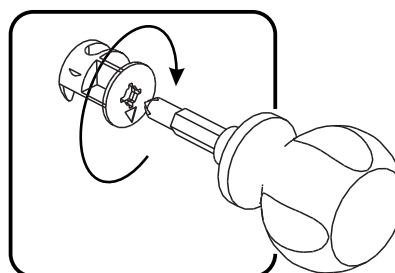

Figure 5
Attach Rail (F) to Back Rail (G) with Dowels and Cam Locks. (See Figure 5)